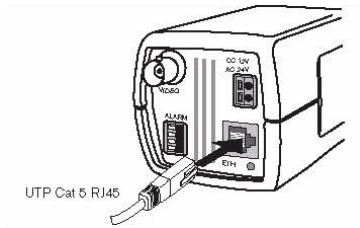

Figure 6.6 Network Connection
2. Connect the camera to a 10/100 Base-T network (*Figure 6.6*).